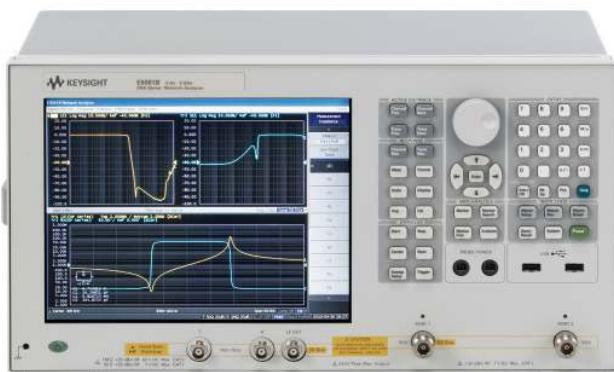

Figure 4b. The Keysight E5061B ENA Series Network Analyzer measures S-parameters
**Why?** It is hard to measure total voltages and currents at the RF DUTs ports. Also, S-parameters are analytically convenient as they allow for calculations of system performance by cascading individual components. An example of equipment that may be used for this step is the Keysight E5061B ENA Series Network Analyzer, shown in Figure 4b.